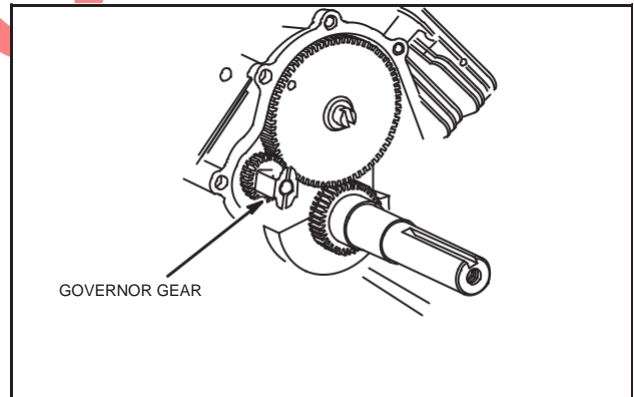

Fig. 3 – Remove Sump
3. Remove sump and discard gasket, Fig. 3.